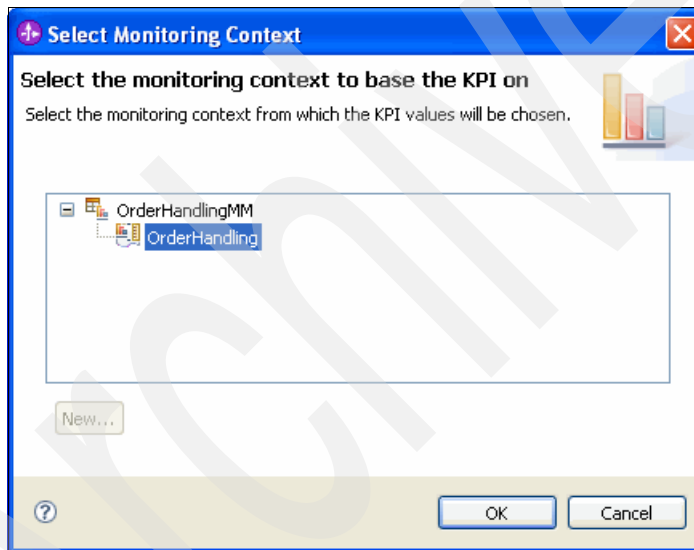

Figure 8-106 Select monitoring context for a KPI
- b. In the Select Monitoring Context window (Figure 8-106), select **OrderHandling** and click **OK**.